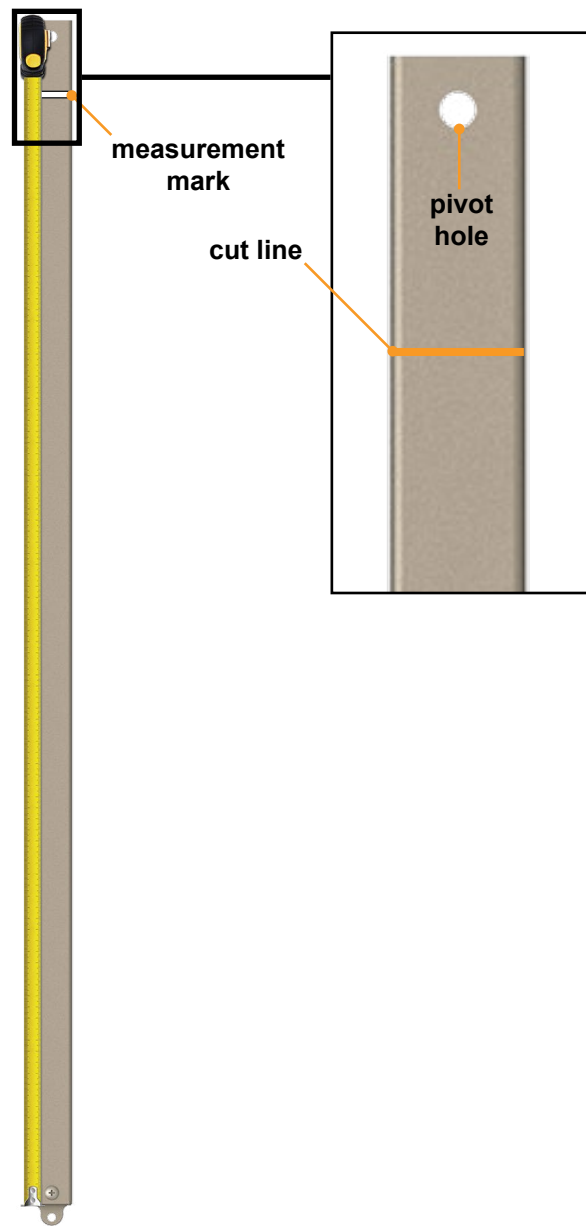

Fig.3
2. Starting at the bottom of the sport arm, use a tape measure and a pencil (Fig.3) to indicate the measurement taken in the Preparation section (step 1).
3. Use a hacksaw or chop saw equipped with a carbide-tipped blade to cut the sport arm at the previously-made mark (cut line) (Fig.3).